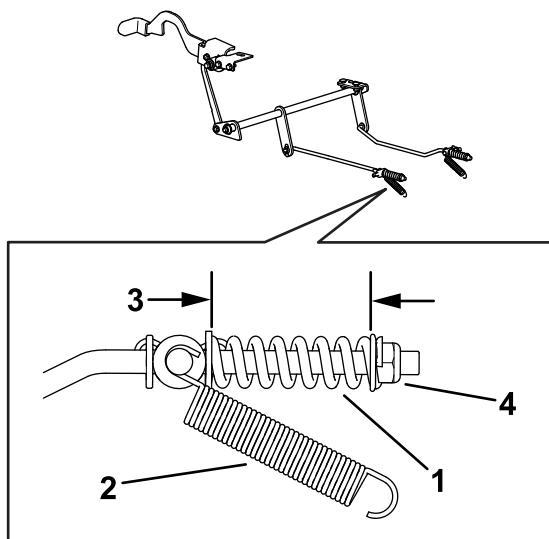

Figure 76
8. Check both spring lengths as shown in Figure 76. If an adjustment is necessary, turn the spring retention nut clockwise to shorten the spring and counterclockwise to lengthen it. Repeat step 6.